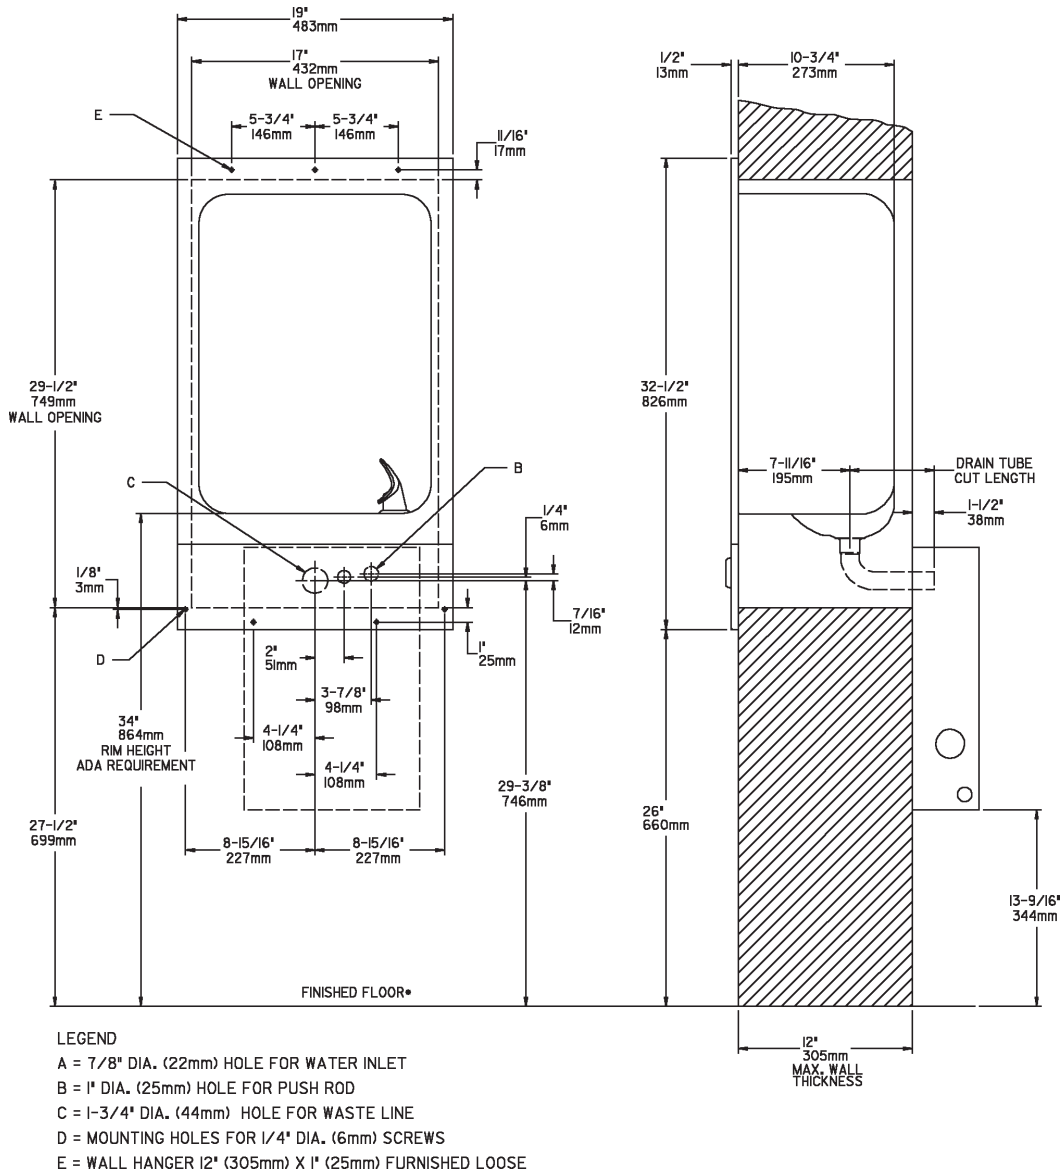

FIG. 4
1. Wall should already be framed for the fountain using dimensions shown in Fig. 4.
2. Rough-in wall that freeze resistant box is to be attached to - see box instructions.**3. Attach the hanger bracket** to the wall as shown in Fig. 4 . Use bolts and flat washers (not provided). Tighten securely.**4. Cut drain tube** (supplied with freeze resistant box). Length of tube is measured from centerline of the fountain drain to the end of the tube. **Cut length is to be 6-3/16" (157mm) less than the wall thickness.****5. Attach push rod** (supplied with freeze resistant box) to push bar Assy (item 6) with screw & clip (items 5 & 12). See Fig. 6.**6. Install fountain** by aligning drain tube and push rod with holes in freeze resistant box while hanging the fountain on the hanger bracket. Attach fountain to wall with screws (not provided).**7. Install freeze resistant box** and connect fountain water line to freeze resistant box - see box instructions. Install bottom cover.**8. Install a service stop (not provided)** and make water supply connection from the stop to the strainer in the freeze resistant box. **DO NOT SOLDER TUBES INSERTED INTO THE STRAINER AS DAMAGE TO THE O-RINGS MAY RESULT.**